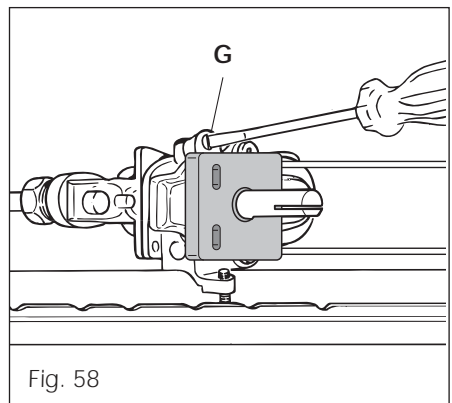

Fig. 58
- remove the knob and by a thin screwdriver (3 mm section - 100 mm long) unscrew of about a half turn the screw by-pass, passing through the front panel hole (fig. 58)